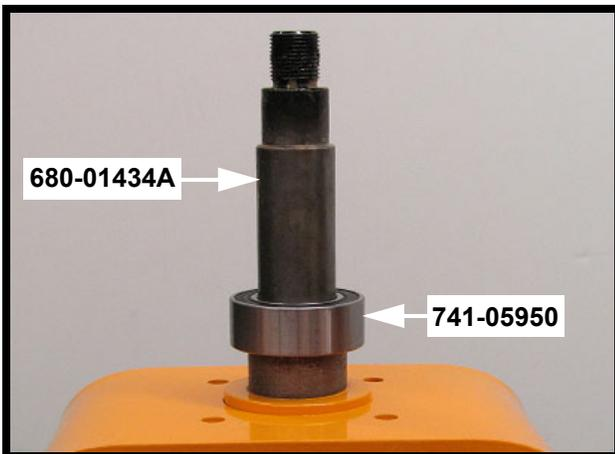

FIGURE 7
17. Locate Item #4 (**741-05950**) Lower Bearing. Identify the bearing as being the correct bearing by installing it over the spindle shaft of Item #1 (**680-01434A-4021**). If the bearing fits all the way down to the step of the yoke spindle shaft as shown in Figure 7, you have chosen the correct bearing.